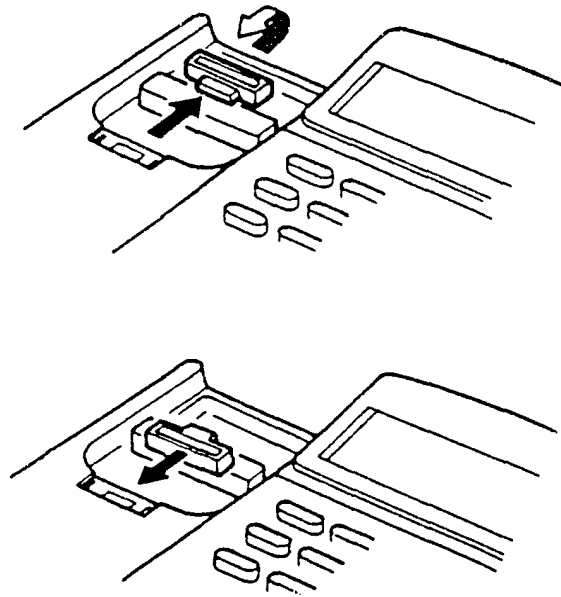

Figure 1-48 Wall Mounting Preparation
2. Remove the hanger by sliding it out. Remount it back in the original position with the projected side facing upward. (Refer to Figure 1-48 - Wall Mounting Preparation.)